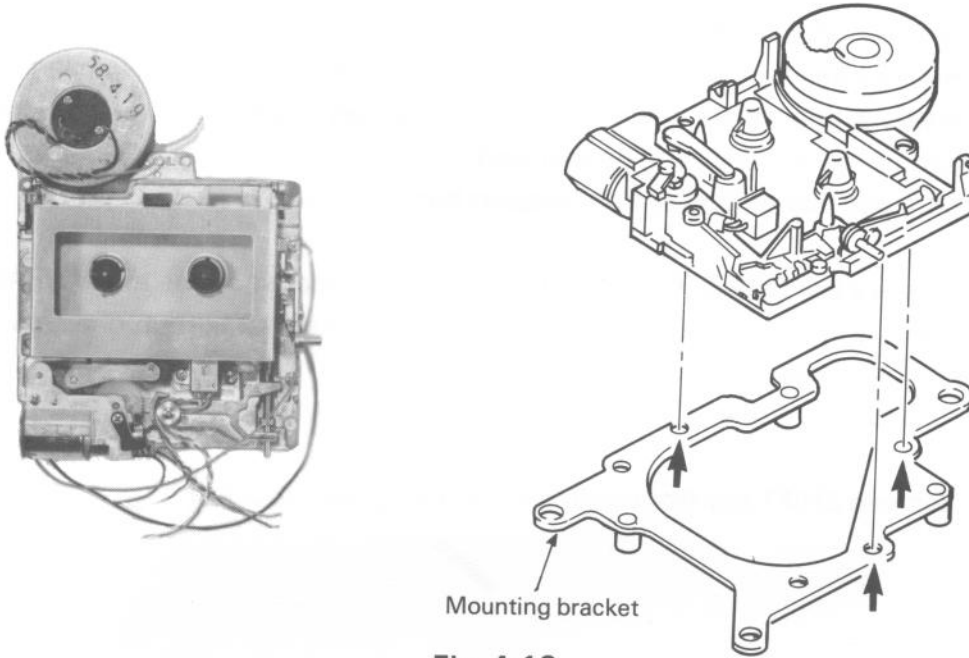

Fig. 4-19
Step 2. Remove microcassette mounting bracket by loosening three screws which are marked with arrows on Fig. 4-19.